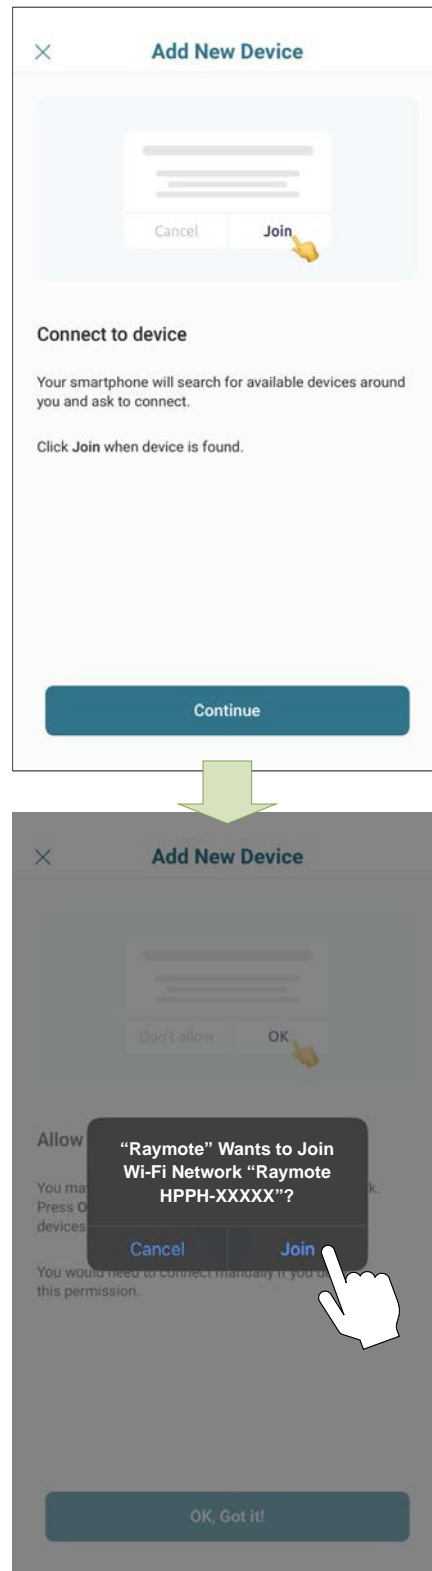

Figure 76. Connecting with iPhone
4. **In iPhone:** Raymote app will start to scan nearby heaters. If you have multiple units ready to connect, stand closer to the unit you want to connect first. Press "Join" to select the displayed heater that matches the HOTSPOT identifier, or press "Cancel" to start the process again. See Figure 76.